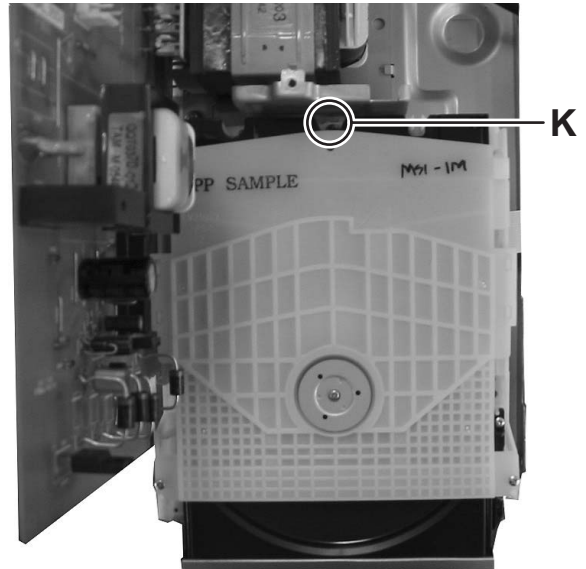

Fig.9
3.1.7 Removing the DVD mechanism assembly (See Fig.9)